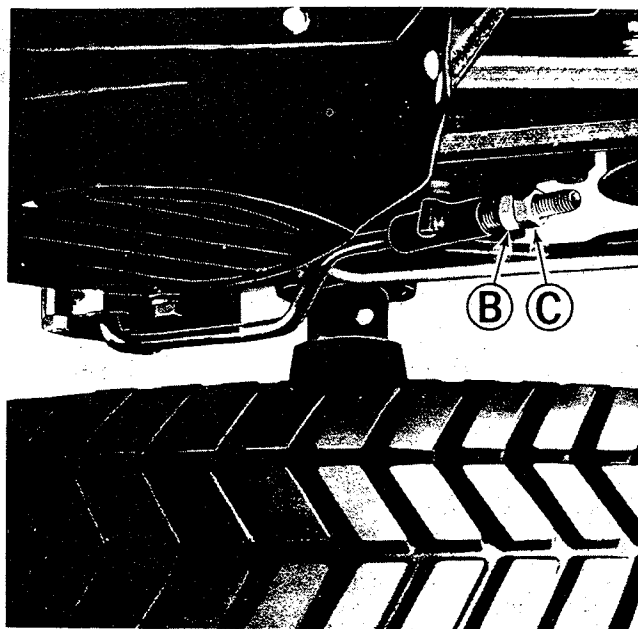

Figure 11. Brake adjustment near right rear wheel.
2. See figure 11. Use one open end wrench to hold nut (B) stationary, and another wrench to turn nut (C) counter-clockwise to loosen it slightly.
3. Turning nut (B) clockwise will give more braking action